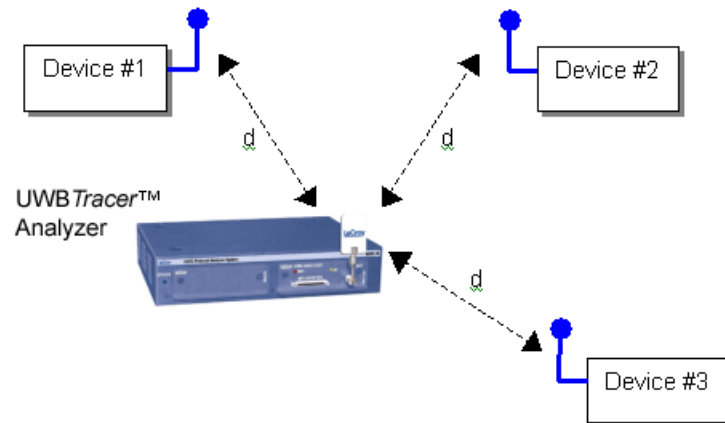

Figure 11.3 Wireless RF Recording
Step 2 Position the analyzer and devices under test at an equal distance from each other, 10 inches apart (Figure 11.3).